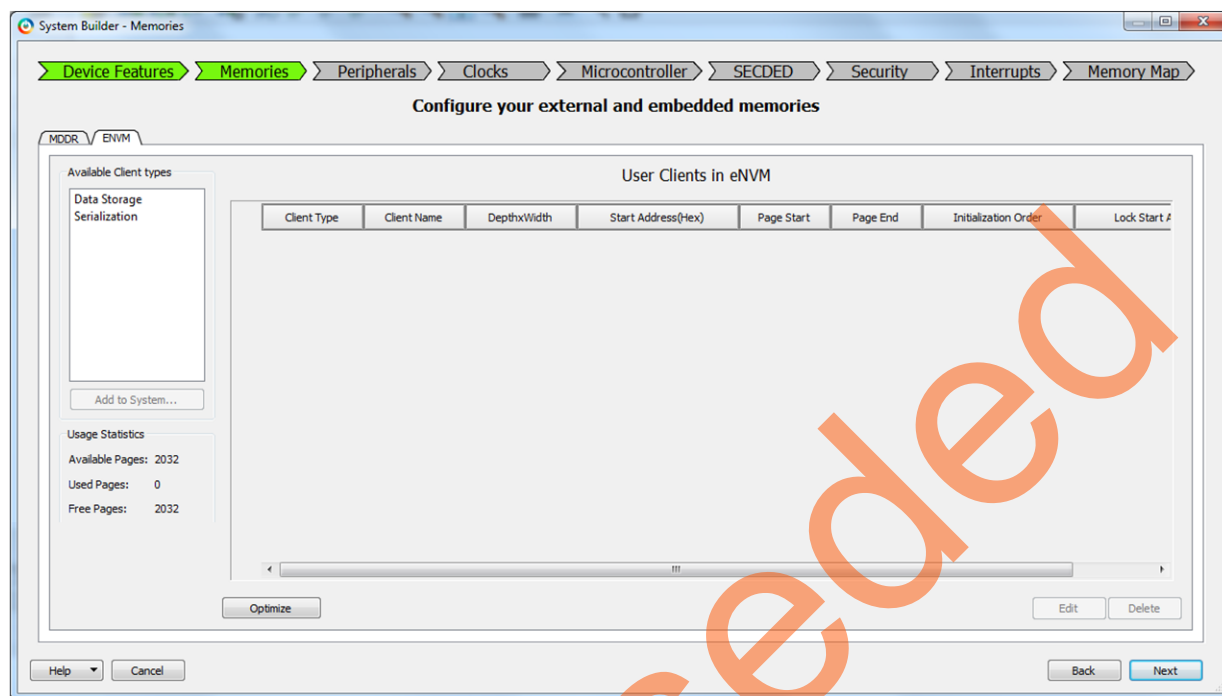
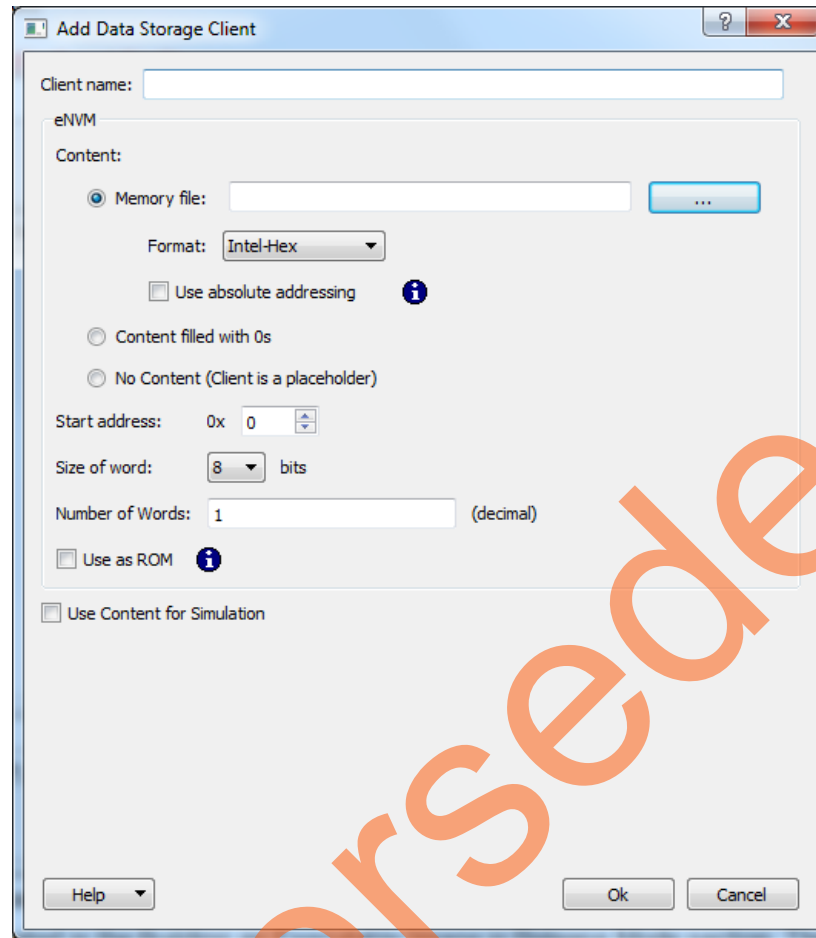

Figure 13 • System Builder - Memories Page
Figure 14 • Add Data Storage Client Window
3. Select **Data Storage** under **Available Client Types** tab and click **Add to System...**, see Figure 13. This opens **Add to Data Storage Client** window as shown in Figure 14.